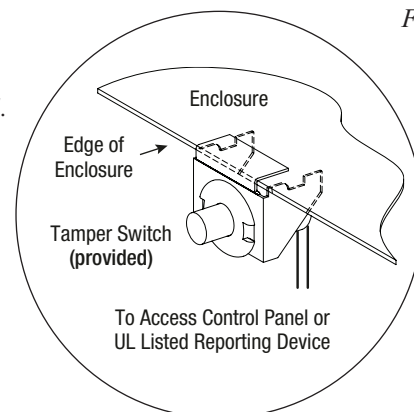

Fig. 1
3. Mount included UL Listed tamper switch(es) (Altronix Model TS112 or equivalent) in desired location, opposite hinge. Slide the tamper switch bracket onto the edge of the enclosure approximately 2" from the right side (Fig. 1, pg. 2).